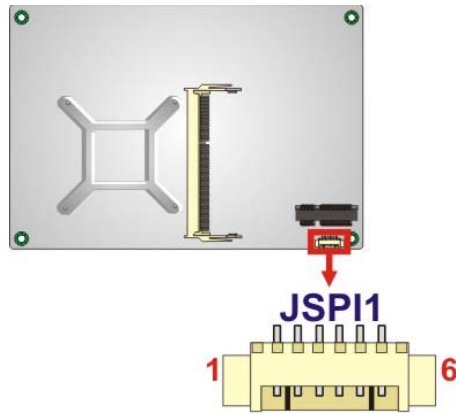

Figure 3-20: SPI Flash Connector Location
- CN Location:** See **Figure 3-20**